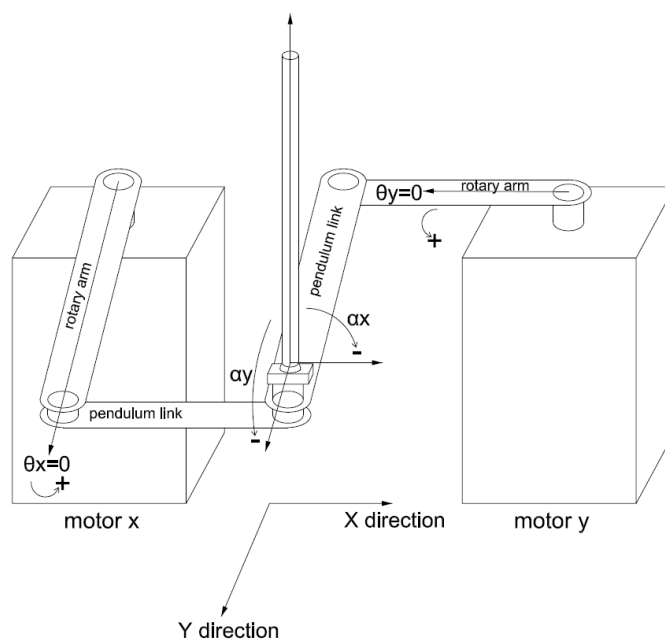

Figure 3: 2-DOF Inverted Pendulum [3].
As you can see from Figure 3, the servo x (left hand side servo) controls the pendulum in direction x while the servo y (right hand side servo) controls the pendulum in direction y .
where α and θ are angles (see Figure 3 and 4) and V_m the voltage applied to the servomotor. All variables besides $\alpha, \dot{\alpha}, \theta, \dot{\theta}$ and V_m are constant and described in Table 1. In the next section we associate a linear time-invariant state space model with (1) and (2).